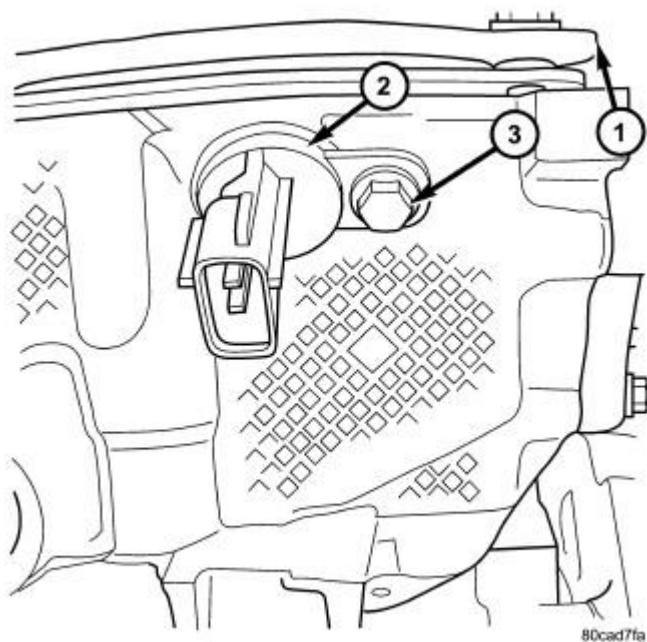

Fig. 168: Cylinder Head, Camshaft Position Sensor & Bolt
12. Remove camshaft position sensor bolt (3) and remove sensor (2). Refer to **Fig. 168**.